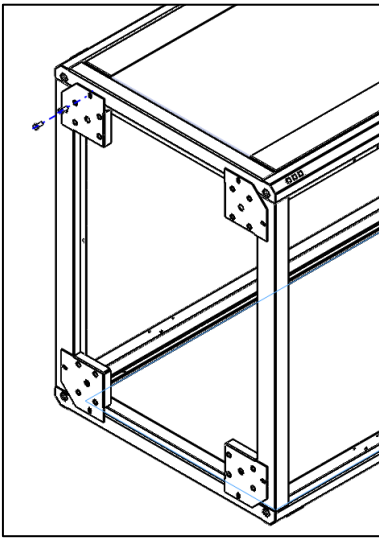

Figure 9
(4) Place the Wheel plate as shown on the **Figure 9** and Tighten M6x15 JMT Screws (C)